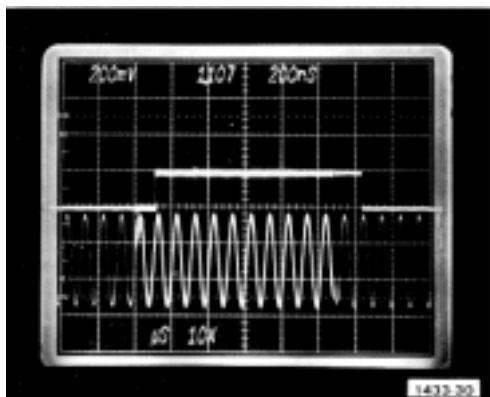

Fig. 5-11. Typical pseudo gate display when A Arm and B Arm Inputs are gated.
l. Check-for a pseudo gate display occurring during the positive peaks of the intensified sine wave. See Fig. 5-11 for a typical display.